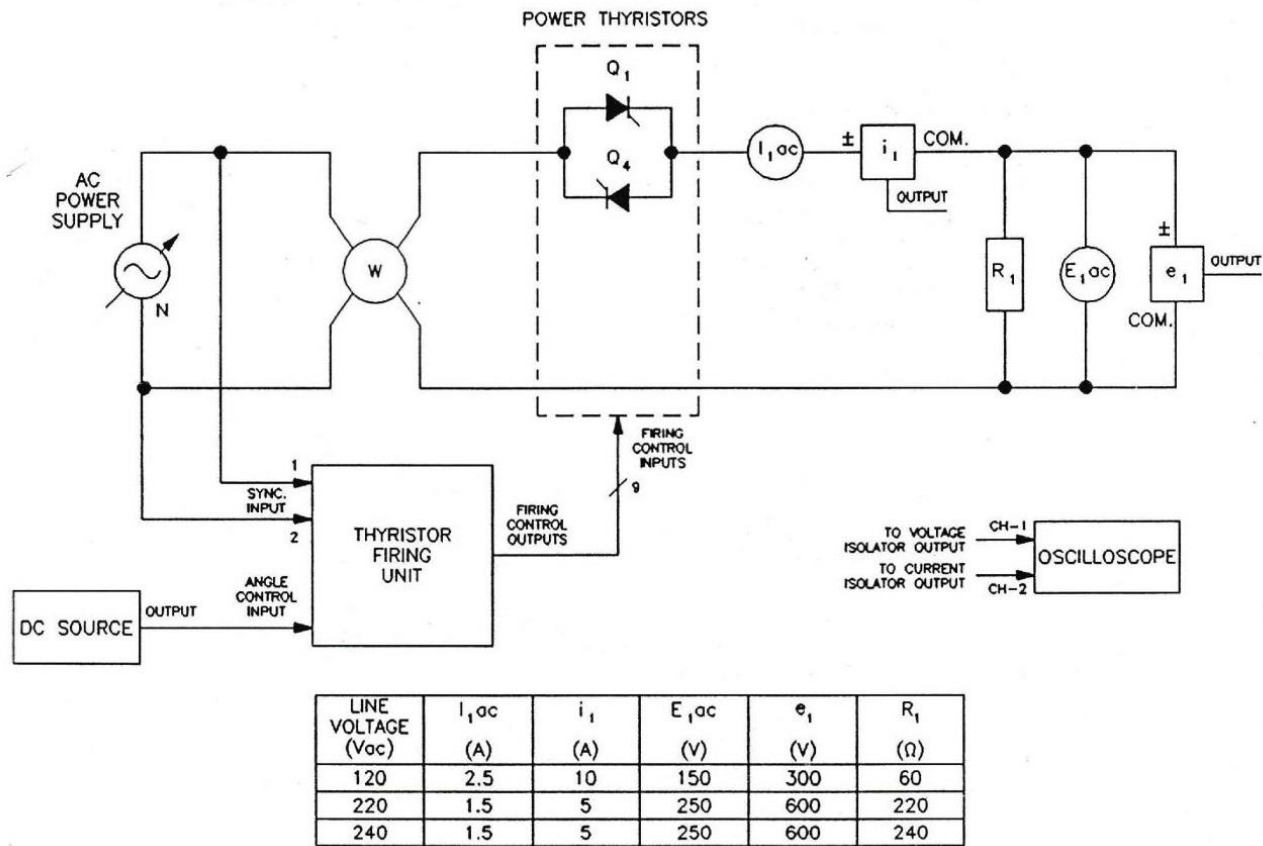

Figure 5-9. Circuit for full-wave phase control.
7. Set up the circuit at Figure 5-9.
9. For a full-wave phase control circuit (Figure 5-9) draw the output voltage and current waveforms when firing angle $\alpha = 90^\circ$.